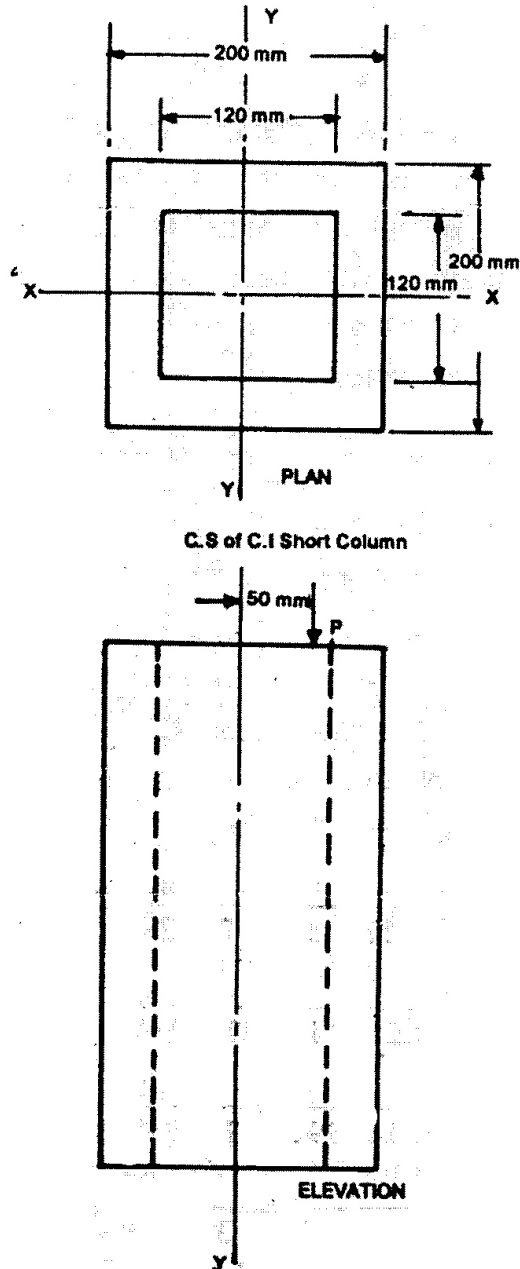

Fig. 4
18. A short column of hollow square section as shown in Fig. 4 is acted upon by a vertical compressive load with an eccentricity 50 mm. Find the maximum load, the column can carry if the maximum stress in compression and tension are limited to 60 N/mm^2 and 3 N/mm^2 respectively.